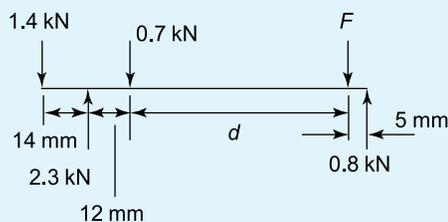

Figure 5.17
2. For the force system shown in Figure 5.17, find the values of  $F$  and  $d$  for the system to be in equilibrium.